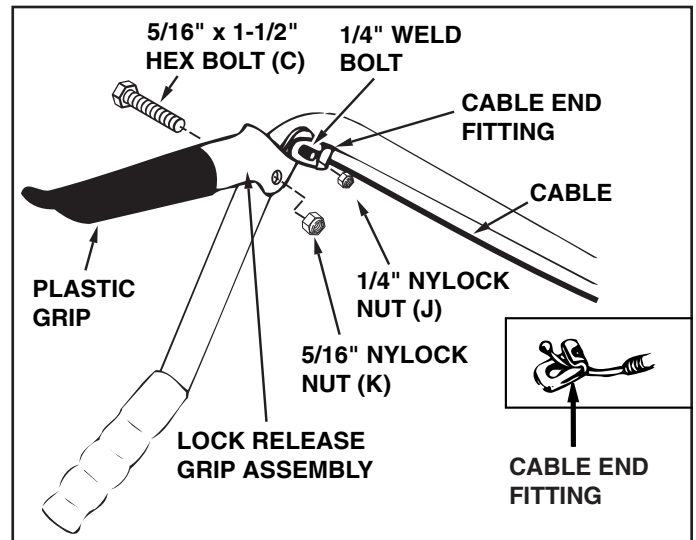

FIGURE 25 (Right Hand Side View)
STEP 11: (SEE FIGURE 25)
- Attach lock release grip assembly to lift handle tube using one 5/16" x 1-1/2" hex bolt (C) and one 5/16" nylock nut (K). **Do not overtighten** the nut. The grip assembly must pivot freely.
- Assemble the ball end of the cable to a cable end fitting as you did to the other end of the cable. Secure the cable end fitting to the weld bolt on the lock release grip with a 1/4" nylock nut (J). **Do not overtighten** the lock nut. The cable fitting must pivot freely.